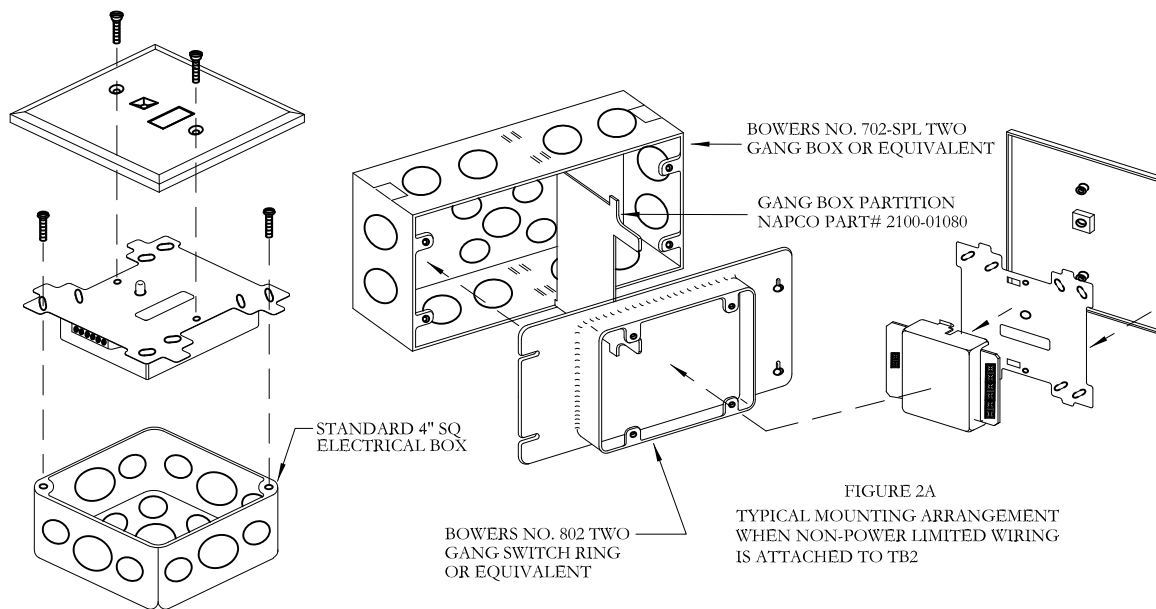

FIGURE 2
The Relay module is mounted as shown in Figures 2 and 2A on page 2 of this instruction.
- 2) Secure the module to a U.L. listed electrical box (supplied by installer), as shown in Figures 2 and 2A.